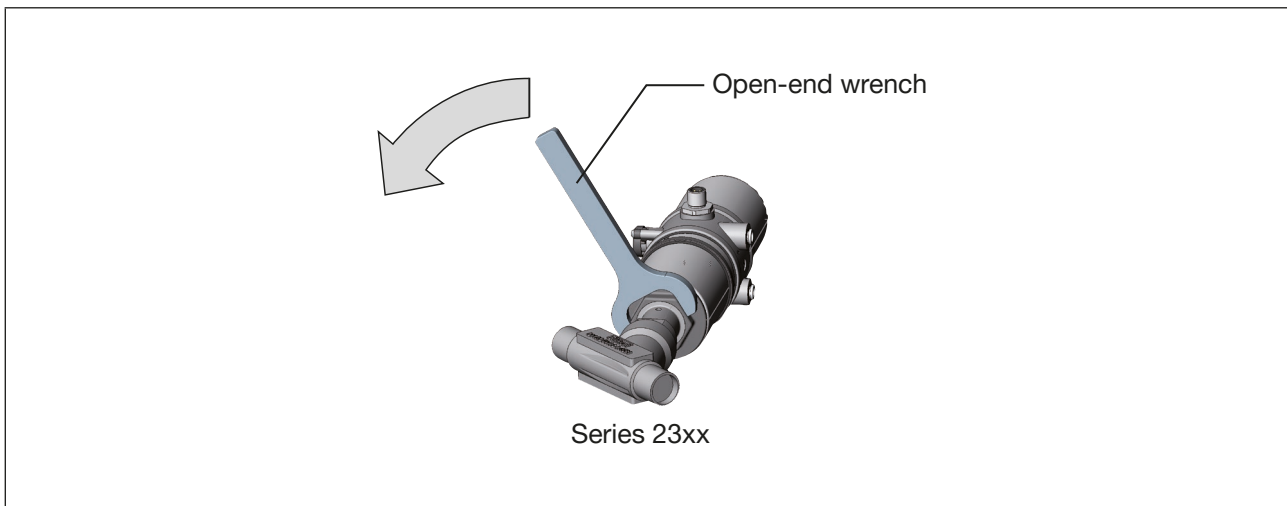

Figure 21: Rotating open-end wrench
- ▶ Rotate the actuator module counter-clockwise only (see “Figure 21”).